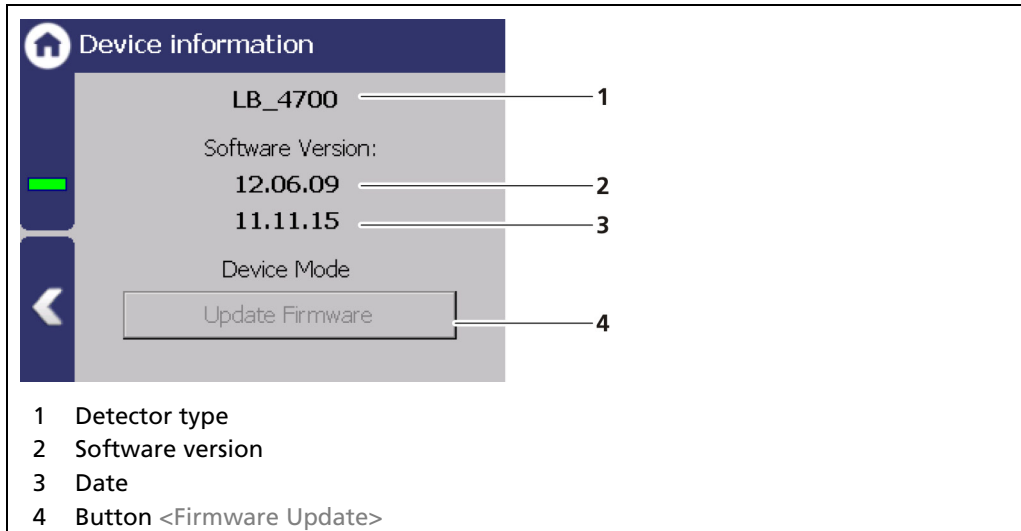

Fig. 69 Device Information
This window shows you the type of detector (Fig. 69, item 1) as well as an overview of the software version (Fig. 69, item 2, item 3) of the detector.
3. The USB storage device is recognized by the system after a few seconds and the <Firmware Update> (Fig. 69, item 4) button can be clicked.
4. Click on the button <Firmware Update> (Fig. 69, item 4).
- ▶ A warning message appears (Fig. 69, item 5).